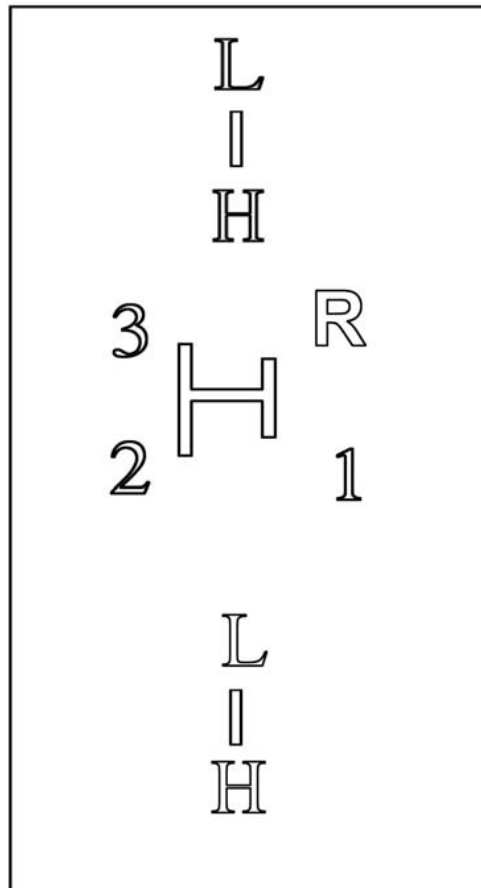

Fig.2-2 Diagram of shifting lever position
- 1) **Auxiliary gear shifting lever:** To control the auxiliary speed gear. (Fig.2-2).
- 2) **Main gear shifting lever:** To control the main speed gear. (Fig.2-2).